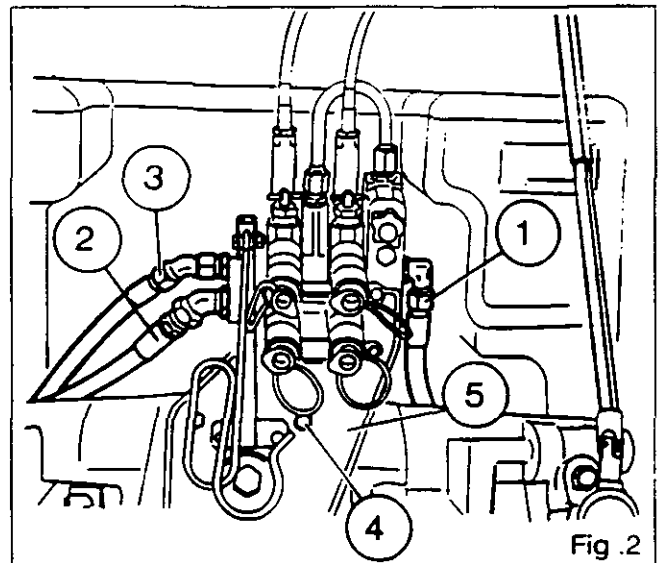

Fig. 2
4. Disconnect (Fig. 2) :
- . the supply hose (1) to the spool valve
- . the supply hose (3) to the lift valve
- . the return hose (2).
5. Remove the bolts (4) for the spool valve support (5) (Fig. 2).